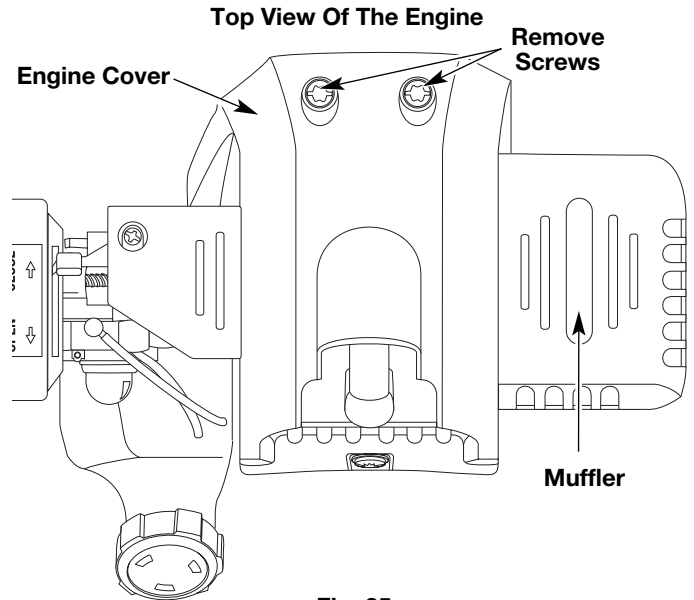

Fig. 25
1. Remove the two (2) screws on top of the engine cover with a Flat-head or T-25 Torx screwdriver (Fig. 25).